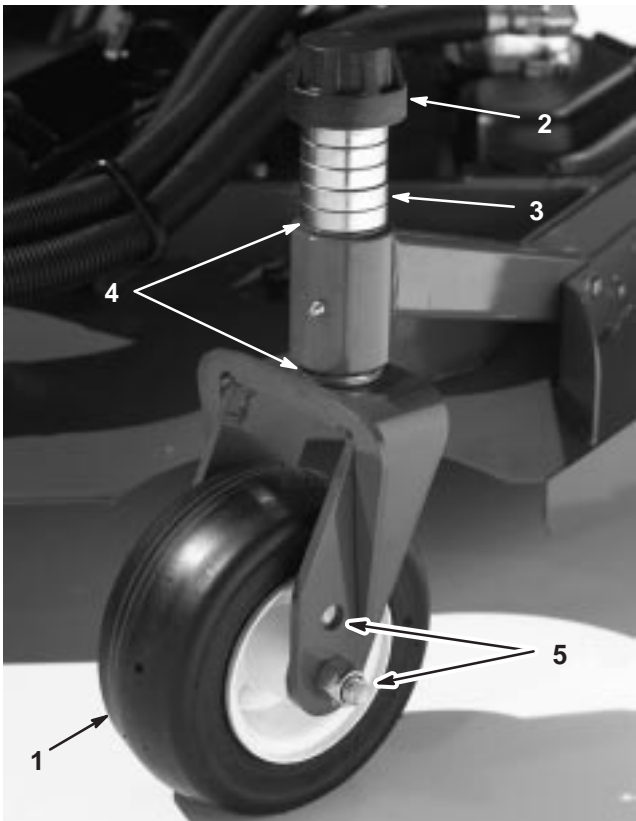

Figure 14
- Remove the tensioning cap from the spindle shaft (Fig. 14) and slide the spindle out of castor arm. Put the two shims (1/8 inch) onto spindle shaft as they were originally installed. These shims are required to achieve a level across the entire width of the cutting units. Slide